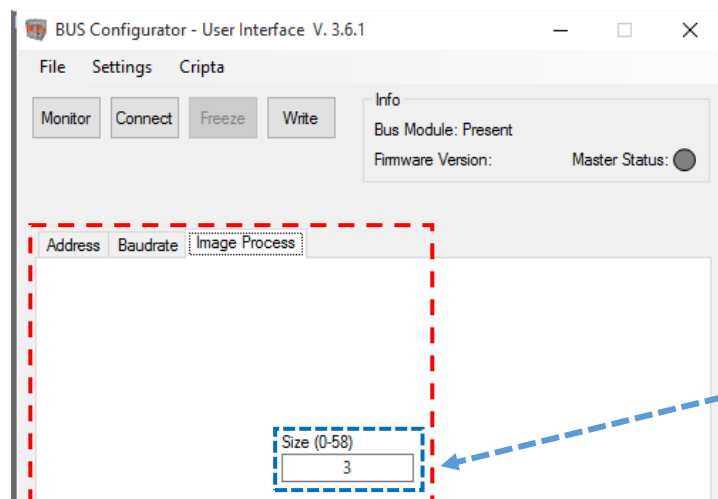

Figure 3 - BUS configurator
- The process image towards the PLC consists of 1 input byte and n output bytes, where n is the number indicated in the blue box in Figure 3.